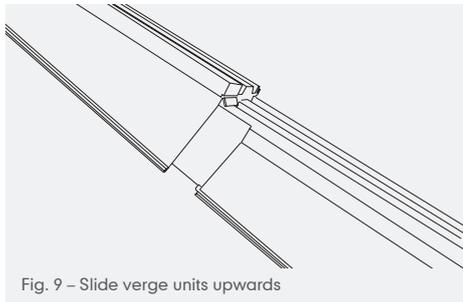

Fig. 9 – Slide verge units upwards
- 9 Successive dry verge units are interlocked together by sliding upwards against unit below, ensuring that lugs on outside of verge unit fit into internal locating slots (Fig. 9).